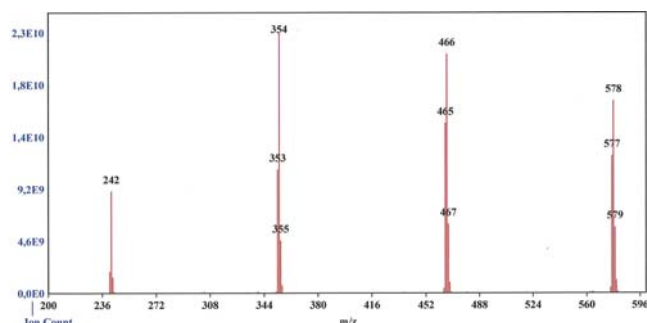

Figure 1: Expected results using MSW Test Mix
11. Compare the mass spectrum with Figure 1. Table 1 includes the expected [M+1] values. If the displayed spectrum fails to display the same values, repeat steps 2-10.